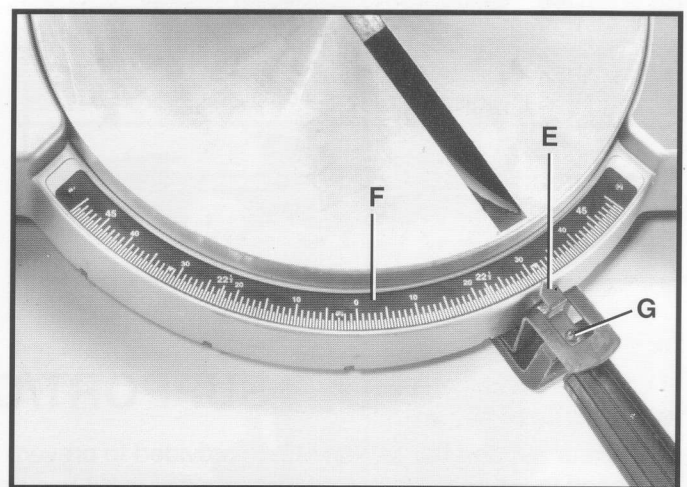

Fig. 17
A pointer (E) Fig. 17, is supplied which indicates the actual angle of cut. Each line on the scale (F) represents 1/2 degree. In effect, when the pointer is moved from one line to the next on the scale, the angle of cut is changed by 1/2 degree.
If it becomes necessary to adjust the pointer (E) Fig. 17, simply loosen screw (G), adjust the pointer accordingly and tighten screw (G).